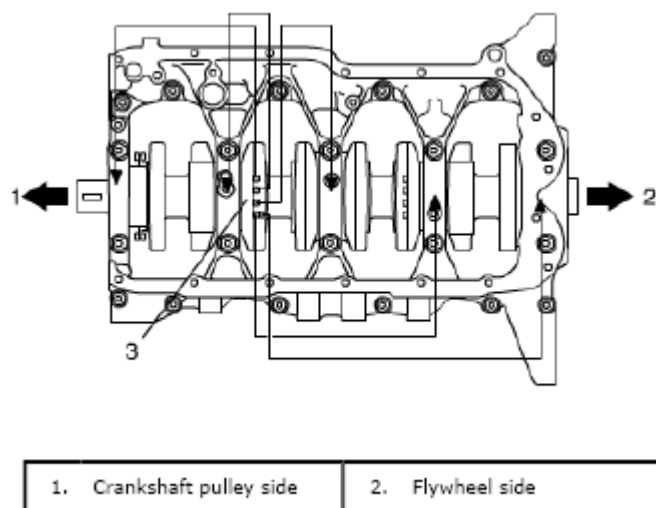

Fig. 190: Identifying Stamped Numbers On Crank Web
- First check journal diameter. As shown in **Fig. 190**, crank web No.2 has stamped numbers.
Stamped numbers on crank web No.2 (3) represent journal diameters marked with an arrow in **Fig. 190** respectively.